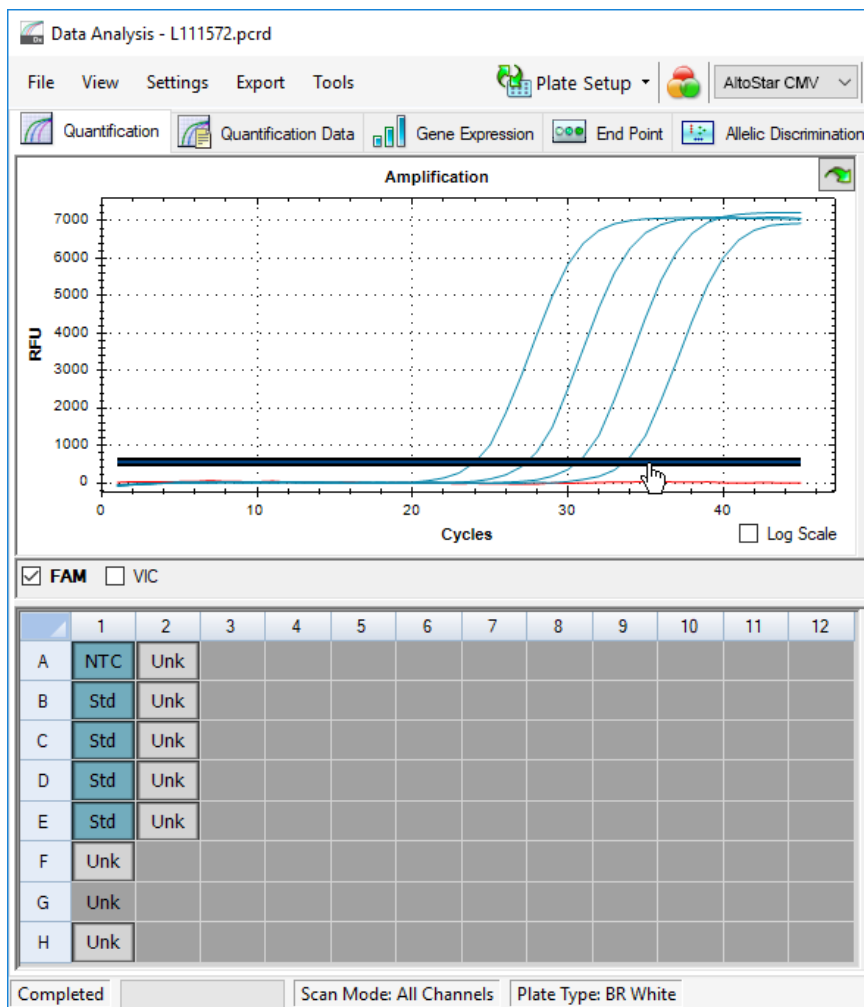

Figure 10: Data Analysis window: setting the FAM™ threshold
5. At the left side of the Data Analysis window untick the **VIC** checkbox and tick the **FAM** checkbox for the detection channel of the CMV target (see figure 10).
6. Select only the wells containing the NTC and the Qs in the plate view of the Data Analysis window (see figure 10).
7. Drag the threshold well above the signal of the NTC into the exponential area of the Qs signals (see figure 10).